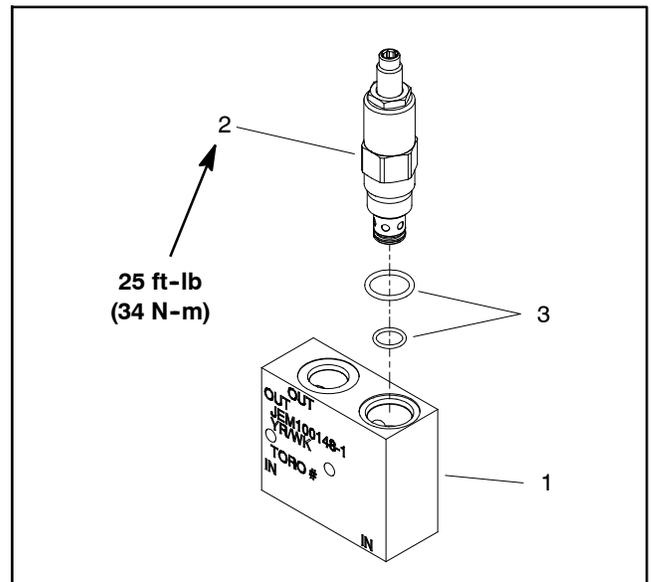

Figure 14
6. Remove two (2) cap screws and flange nuts that secure manifold to engine mount plate.
9. If necessary, remove relief valve from manifold with a deep well socket (Fig. 14). Note location of O-rings and backup rings on valve. Remove and discard removed seal kit.
1. If relief valve was removed from manifold, install relief valve (Fig. 14):